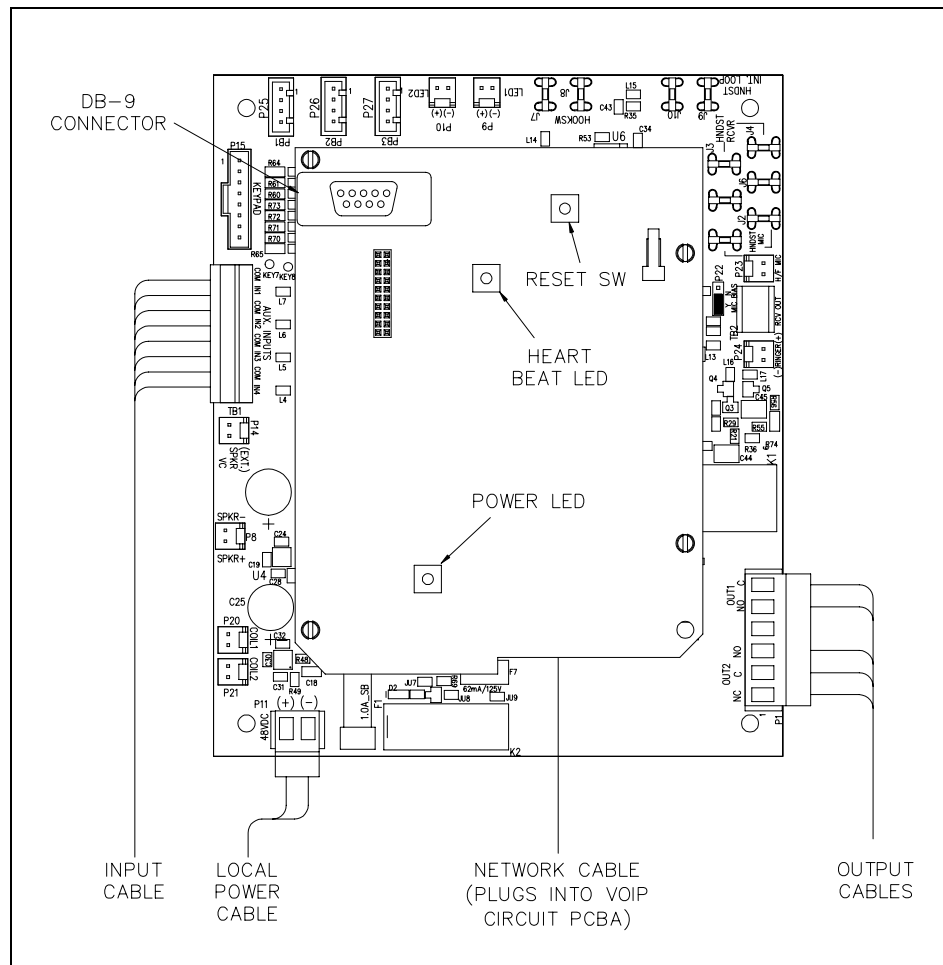

Figure 7. VoIP Telephone PCB Assembly
2. Plug the incoming Cat5 data line to the network Cat5 cable receptacle on the underside of the VoIP PCBA. See Figure 7.
Install any additional connections as indicated below. Refer to Figure 7, 8 and 9 for wiring details. Refer to Table 1 on page 10 for the recommended conductor sizes.